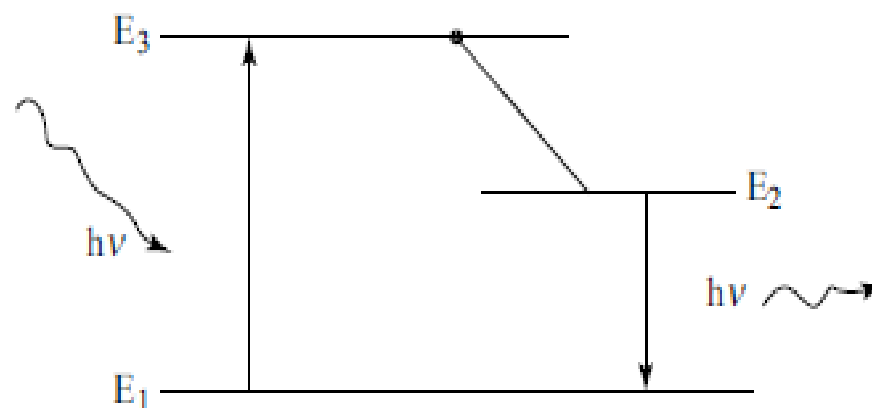

Fig. 13.3 *Electron transition – Absorption and emission*
(2) *Electron transition* One can explain the phenomena of absorption and emission of electromagnetic radiation by considering transition of electron when a light radiation is incident on material. Consider that an electromagnetic light of frequency ν is incident on the material. The atoms in the ground state (E_1) absorb energy and hence, it is excited to the higher energy state E_3 . The process of absorption and radiation of electromagnetic radiation is shown in Fig. 13.3.